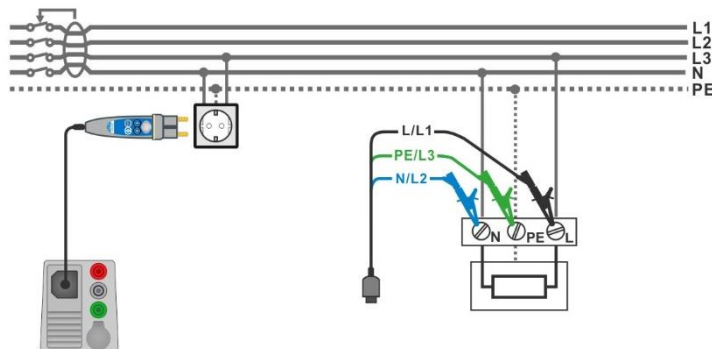

Figure 7.34: Connecting the Plug commander and the 3-wire test lead
- › Connect L, N and PE of 3-wire test lead or Plug commander to the object under test, see **Figure 7.34**.
- › Connect 3-wire test lead or Plug commander to the object under test, see **Figure 7.34**.
<ul style="list-style-type: none"> › Enter the RCD Auto function. › Set test parameters / limits. › Connect test cable to the instrument. › Connect 3-wire test lead or Plug commander to the object under test, see Figure 7.34 › Start the measurement. 	Start of test